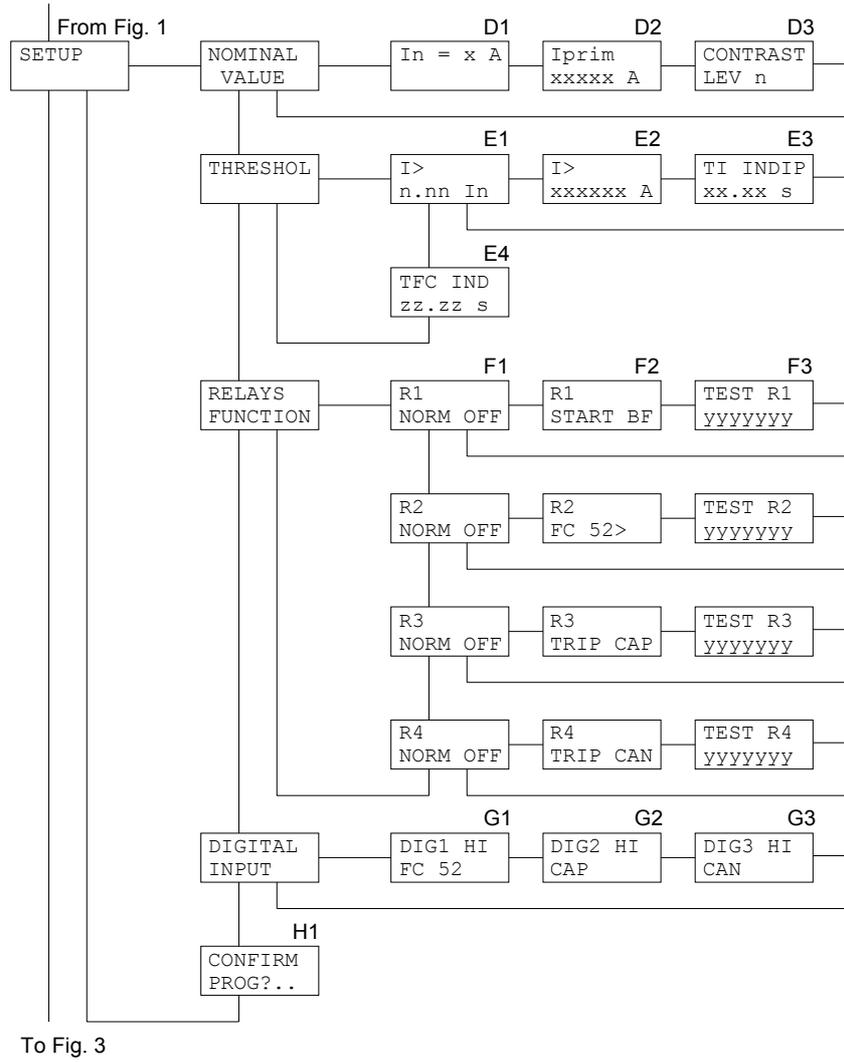

Figure 2
When the output relays test is selected (Fig. 2, ref. F3) it is possible to command an output relay (one at the time) to trip from the current status allowing functional tests on electrical plants.
5.5 Nominal values set-up (fig. 2)**D1 - NOMINAL CURRENT SELECTION (programmable)**
5.6 Thresholds and time delays set-up (fig. 2)